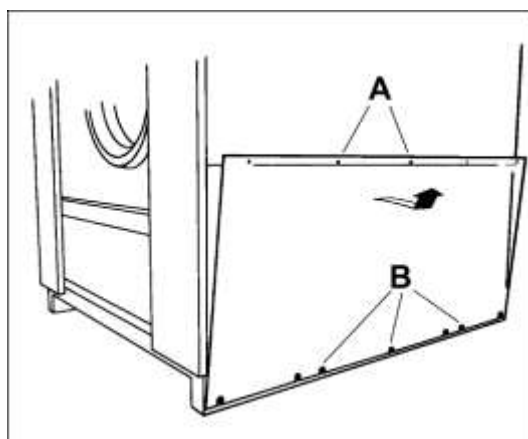

Fig. 2.10
- Remove the screws securing the side guards at the top. Loosen the screws holding the lower guard and separate them from the machine (Fig. 2.10/A. B).